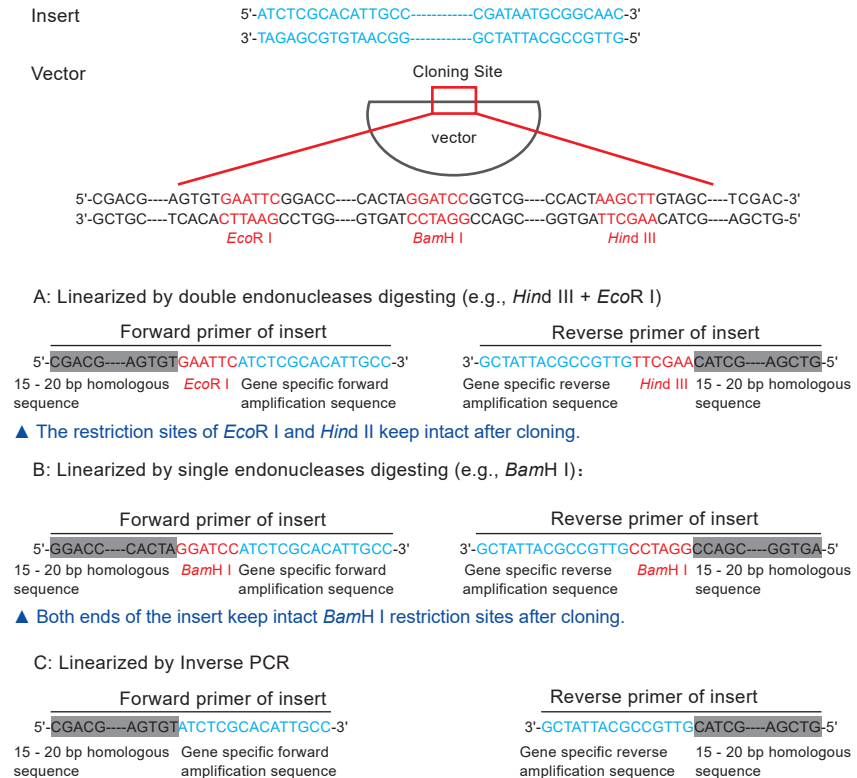

Fig 4. Primer Design for Single-fragment Homologous Recombination
- ▲ Primer design of both side fragments and the recombination end of the vector (Refer to Fig 4. Primer design for single-fragment homologous recombination).